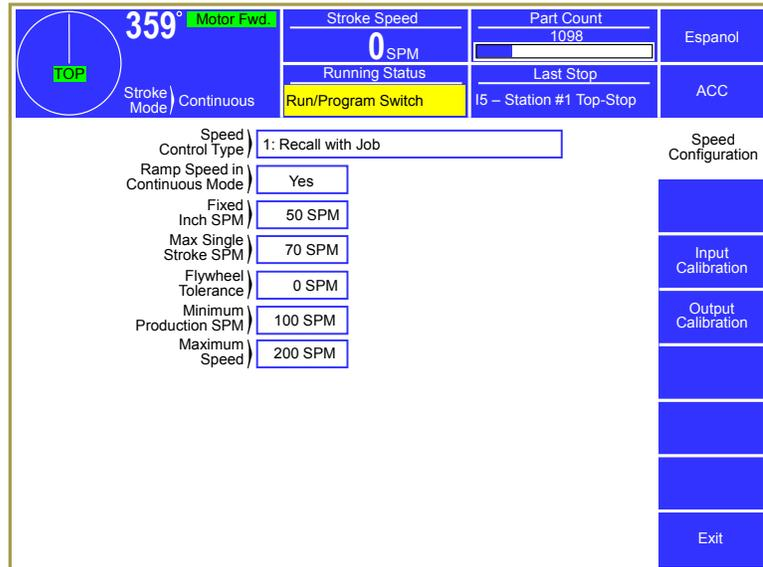
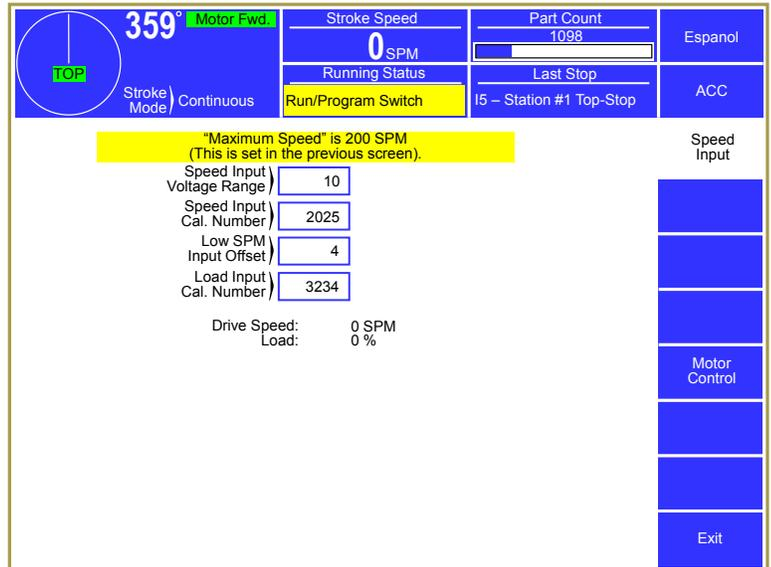
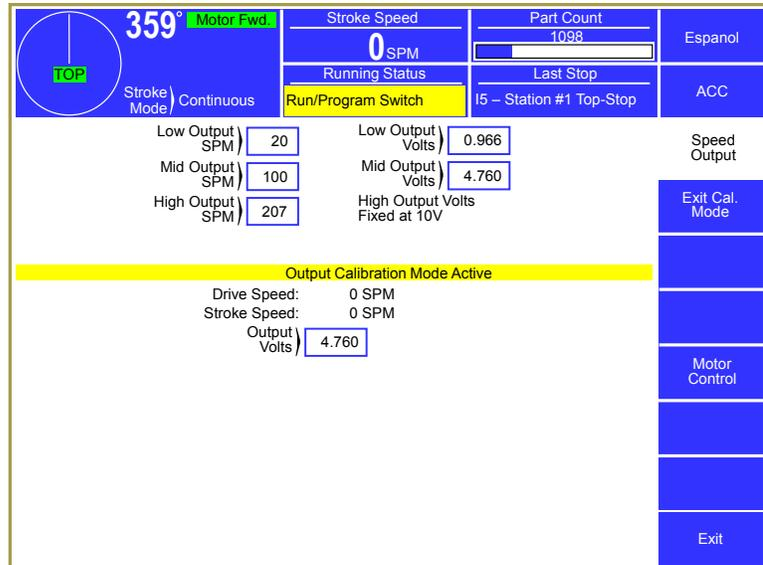

Figure 57: Speed Configuration Screen
Figure 58: Speed Input Calibration Screen
Figure 59: Speed Output Calibration Screen
Speed Configuration softkey in the Press Control Configuration screen (see Figure 43 on page 72). If the optional 5100-3B Analog I/O board is installed, the screen shown in Figure 57 can be used to configure the press drive speed. All the parameters on the Speed Configuration screen are User Configurable. This option can be used to display the present speed, percent load of the drive, and control the speed of the drive. Example connections necessary to read and display motor speed are shown in Figure 108 on page 185.
This User Configurable parameter allows the press control to be configured to reject an operators attempt to run the press below a defined point in production modes. In the example shown in Figure 57 a minimum entry setting of 100 would mean that the press could not be operated in any production mode (Single Stroke or Continuous) below 100 SPM. Note that the press would still Inch at 50 SPM for die setting.
The Speed Input screen is accessed by touching the **Input Calibration** softkey in the Speed Configuration screen of Figure 57. This screen (as shown in Figure 58) provides parameters used to calibrate the analog input that measures drive speed (voltage applied to terminals S1-S2 of the 5100-3B speed control option board). All parameters shown on this screen are User Configurable. If sufficient information is already known about the drive, the parameters may be entered and then adjusted as necessary. If no information is known about the drive, then see Section 4.2.13.7 on page 118 for the calibration process.
The Speed Output screen is accessed by touching the **Output Calibration** softkey in the Speed Configuration (see Figure 57 on page 112). The screen shown in Figure 59 is used to calibrate the analog output that controls the drive speed (voltage output on terminals S3-S2 of the 5100-3B speed control option board). The example screen shown here is as it will appear when in “Output Calibration Mode”. The information shown at the yellow information bar near the middle of the screen and below will not appear until “Output Calibration Mode” is entered. If sufficient information is already known about the drive the parameters may be entered and then adjusted as necessary. If no information is known about the drive, see Section 4.2.13.6 on page 117 for more information about calibrating the speed control output.
Step 3 Once stroking at high speed with a full scale command signal, the SPM input can be calibrated by using the “Speed Input” calibration screen (See Figure 58 on page 115). The